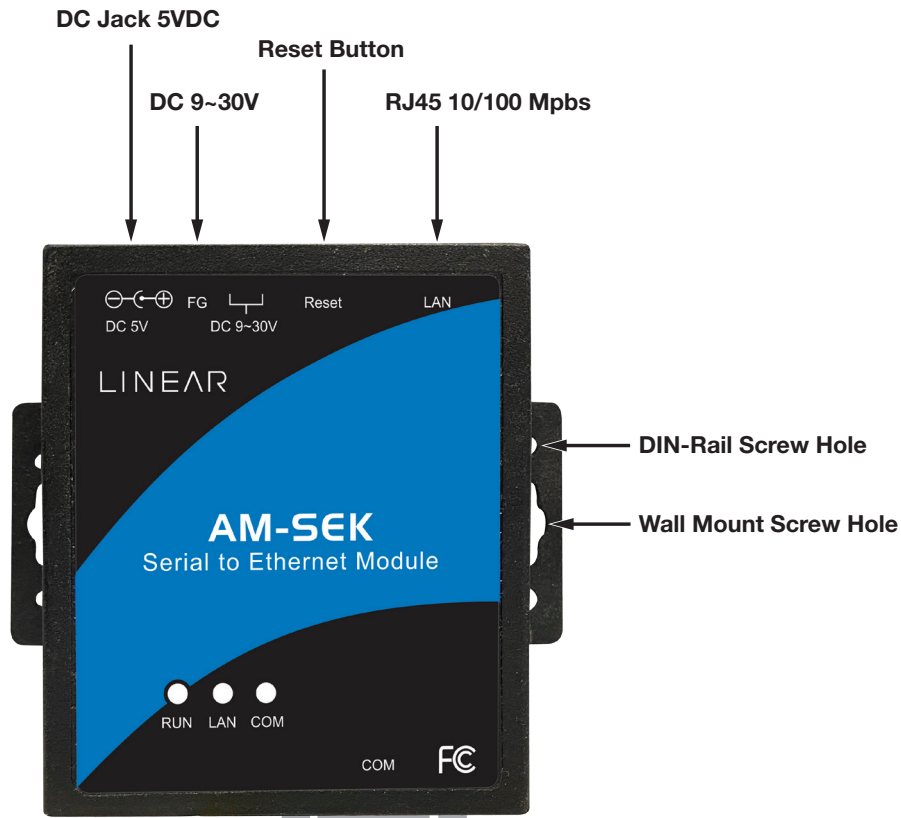

Figure 2.1 AM-SEK interfaces
2. Press the reset button of AM-SEK to reset the settings to the default values (see Figure 2.1 below).